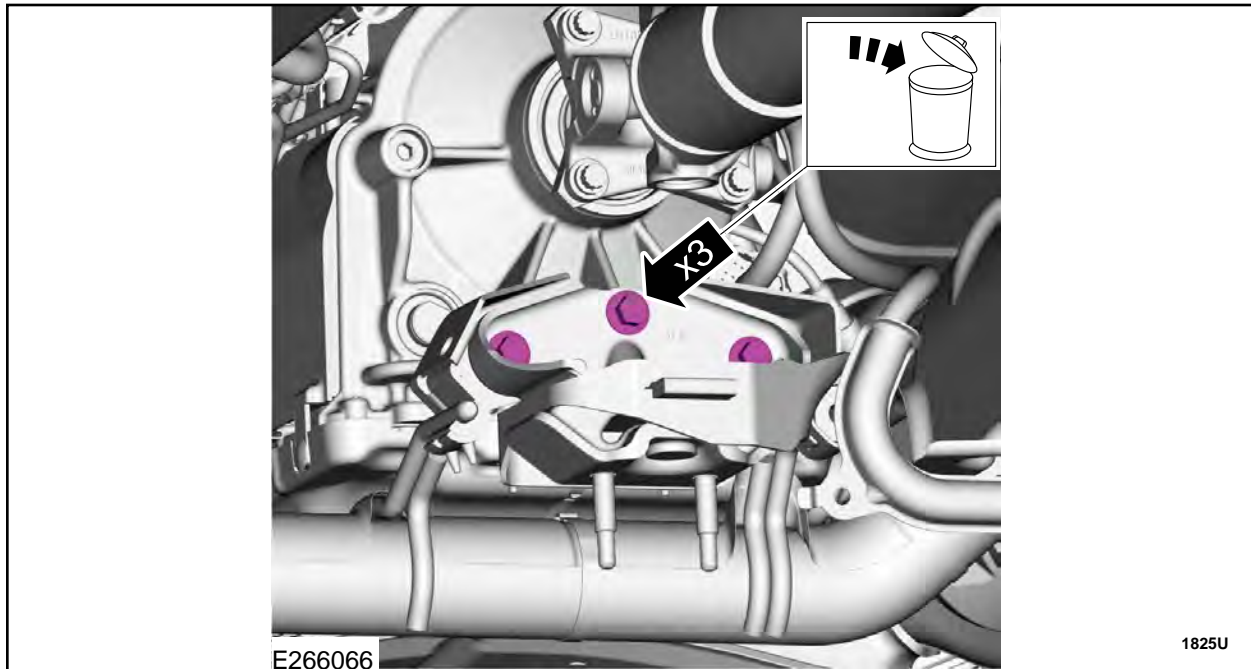

FIGURE 25
42. Remove and discard the transmission support insulator bolts and washers. See Figure 25.